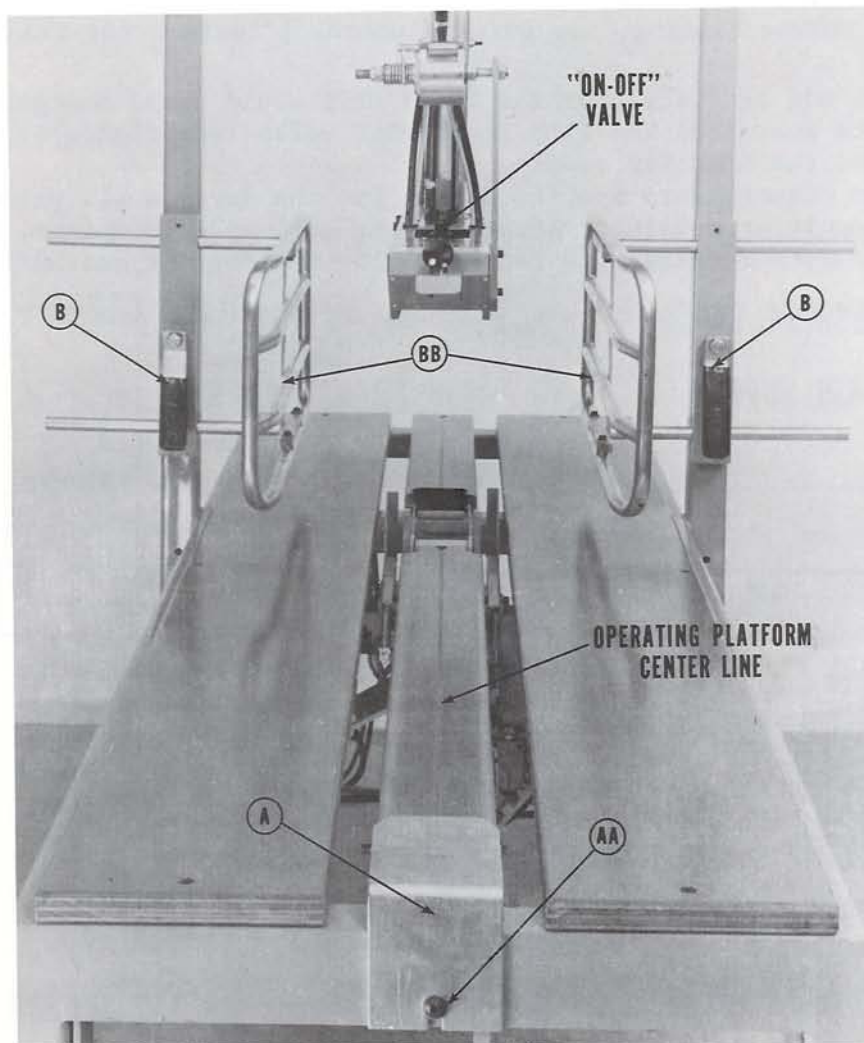

FIGURE 3 - SIDE GUIDES SET-UP - END VIEW
Remove all tools and hardware from the S-609 that could cause damage when the air cylinders are energized and with the ON-OFF valve (see figure 3) in "OFF" position, connect the main air supply.
BOX HOLDER - Refer to figure 3
Refer to Figure 3. Loosen, but do not remove, the clamp locking handles (B) holding each side guide (B-B). Slide the side guides apart to the maximum open position.
Set-up and fold the flaps down on enough product filled boxes to cover the area beneath the hold down ski. Place the boxes on the platform with the box center seam in line with operating platform center line (see figure 3). Position enough boxes in line to cover the length of the hold down ski (D) as shown. Lower the top taping head to within 1/16 to 1/8 inch above the boxes and tighten the clamp handle (C) to secure the top taping head.